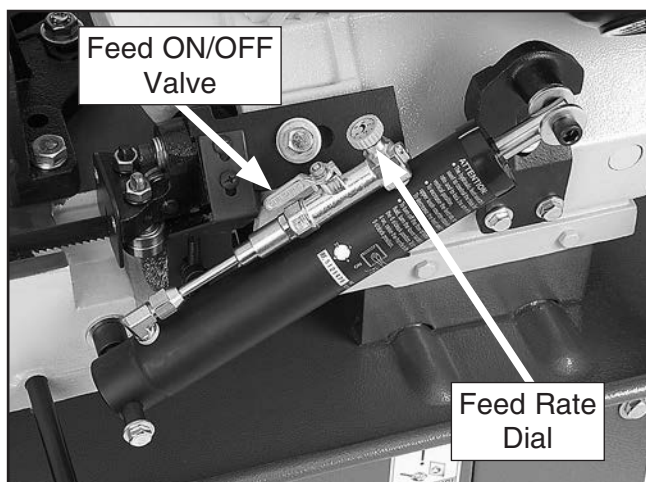

Figure 26 Location of feed ON/OFF valve and feed rate dial.
6. Close feed ON/OFF valve to lock bow in position (see **Figure 26**).